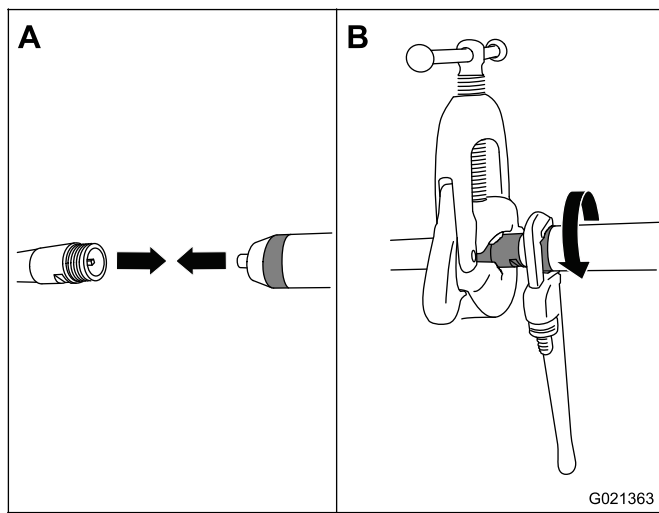

Figure 17
1. Hold the threaded end of the shaft in a pipe vise, and coat the threads of the shaft with a thread sealant to prevent water from entering the head (Figure 17).